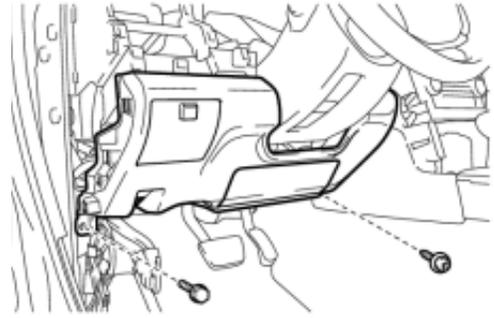

Fig. 3a
1. Remove 1 10 mm bolt and 1 phillips screw from the driver's side lower finish panel. (Fig. 3a)